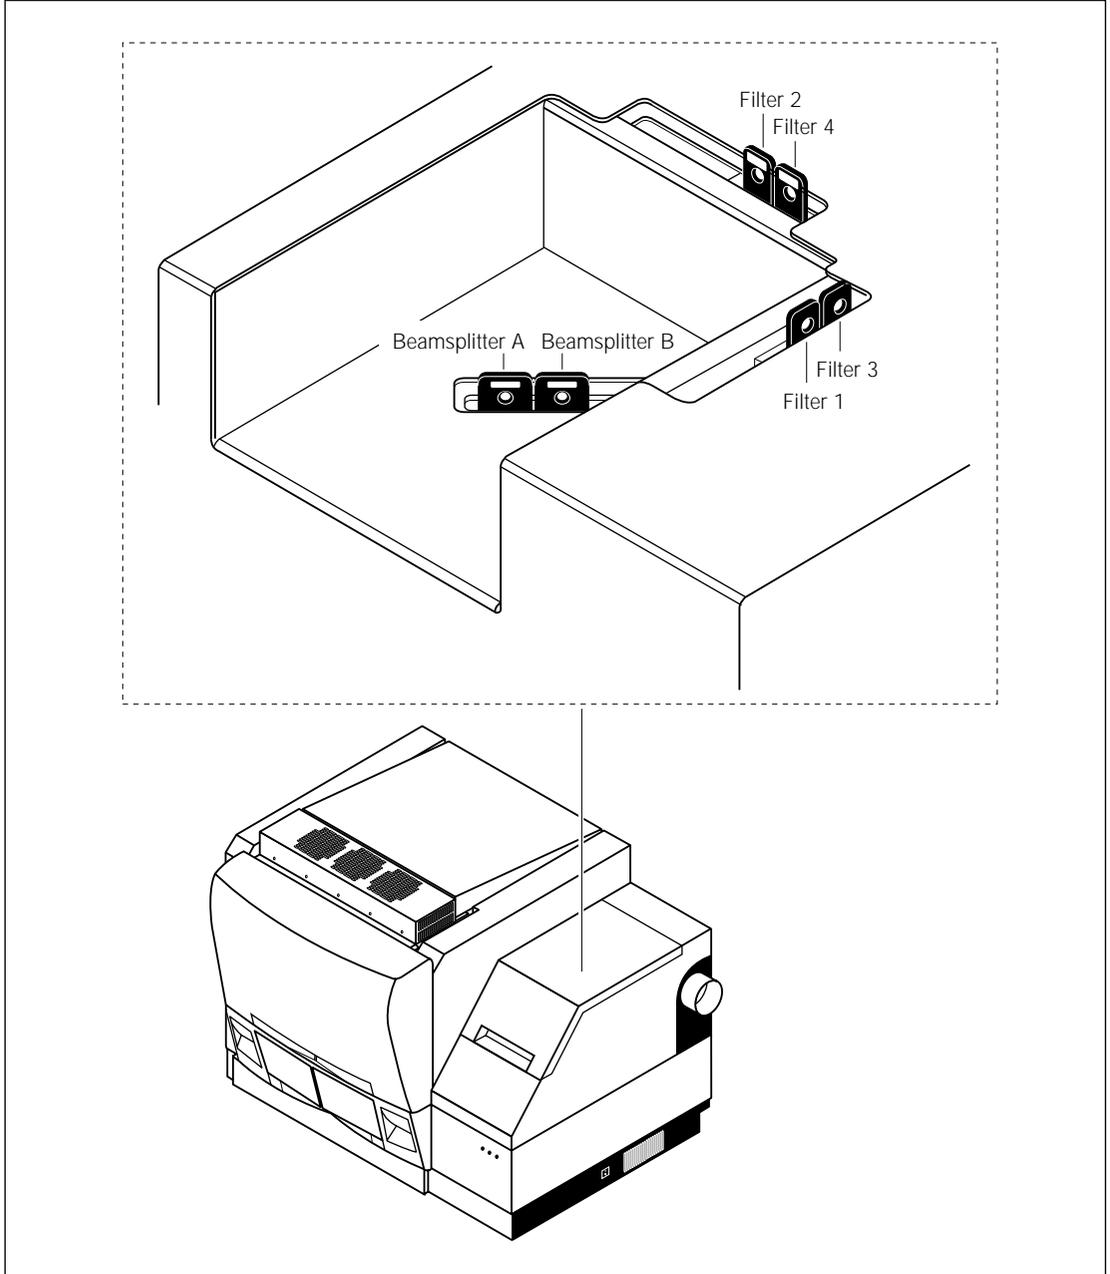

Figure 3-5. Locations of the filters and beamsplitters in the filter compartment.
1. Open the filter compartment lid. Figure 3-5 shows the locations of the filters and beamsplitters.